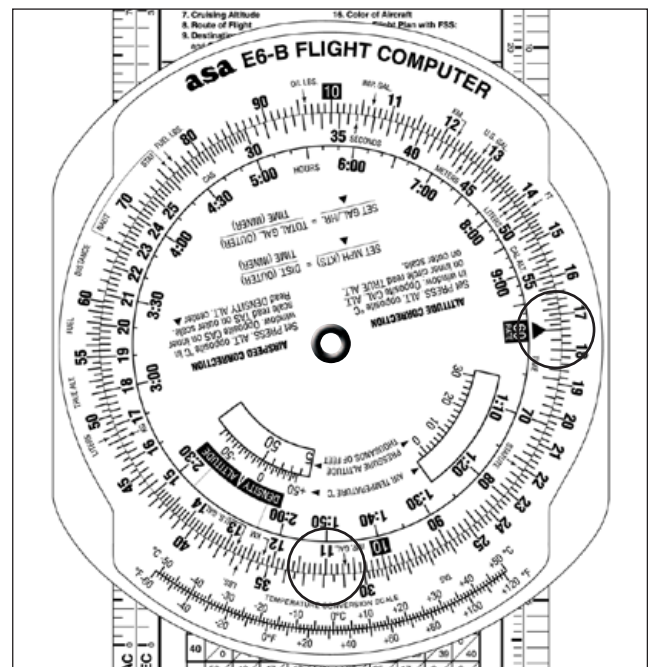

Figure 9-12. Determining time required on the E6-B
2. Under 320 (outer scale), read 110 minutes or 1 hour 50 minutes (inner scale). See Figure 9-12.